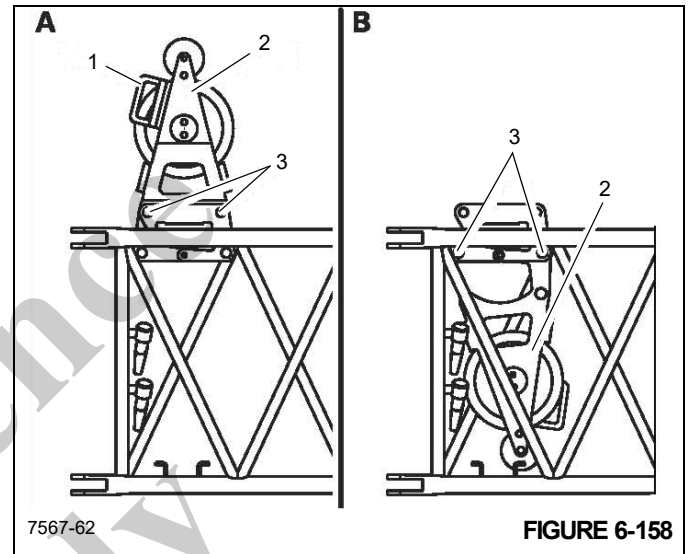

FIGURE 6-158
1. Remove the retaining clips from the pins (3), (Figure 6-158).
2. Hold the deflection sheave by the handle (1), (Figure 6-158) and pull out the pins (3), (Figure 6-158).
3. Fold the deflection sheave (2), (Figure 6-158) downwards and fasten it in this position with the pins (3), (Figure 6-158).
4. Secure the pins (3), (Figure 6-158) using retaining clips.